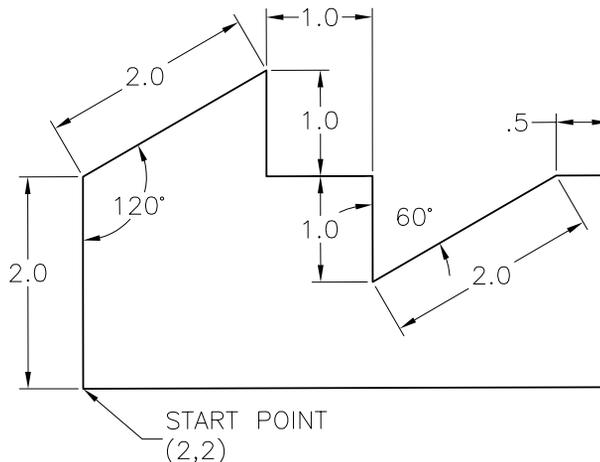

Figure 2-50 Drawing for Example 5
In this example, you will set the units and draw the profile with specifications shown in Figure 2-50.
6. With the units set, you need to draw Figure 2-50 using the relative polar coordinates. Turn off the dynamic input. The prompt sequence to complete the sketch is as follows: